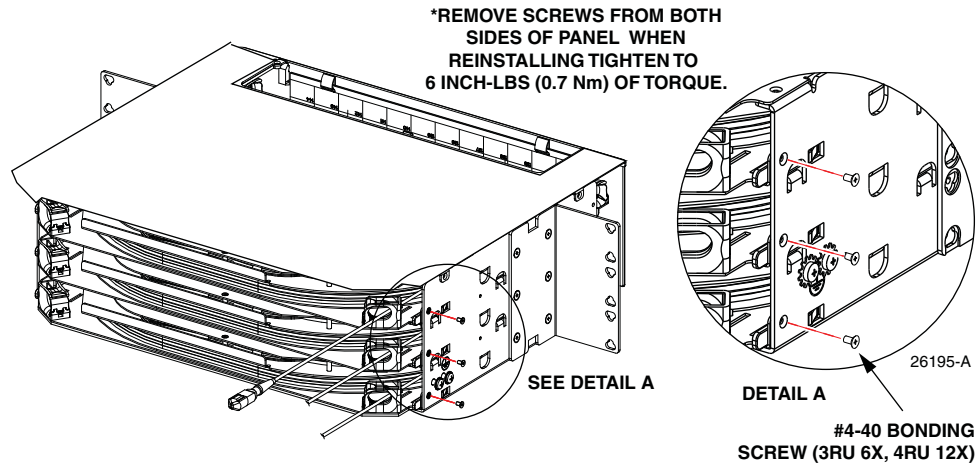

Figure 24. Location of #4-40 Bonding Screws
- a. Remove the #4-40 bonding screws located on either side of the panel shell at the points indicated in Figure 24. Save screws for reuse.
- g. Re-install the #4-40 bonding screws (removed in step 8a) on either side of the panel shell (see Figure 24) and tighten to 6 inch-lbs (0.7 Nm) of torque.